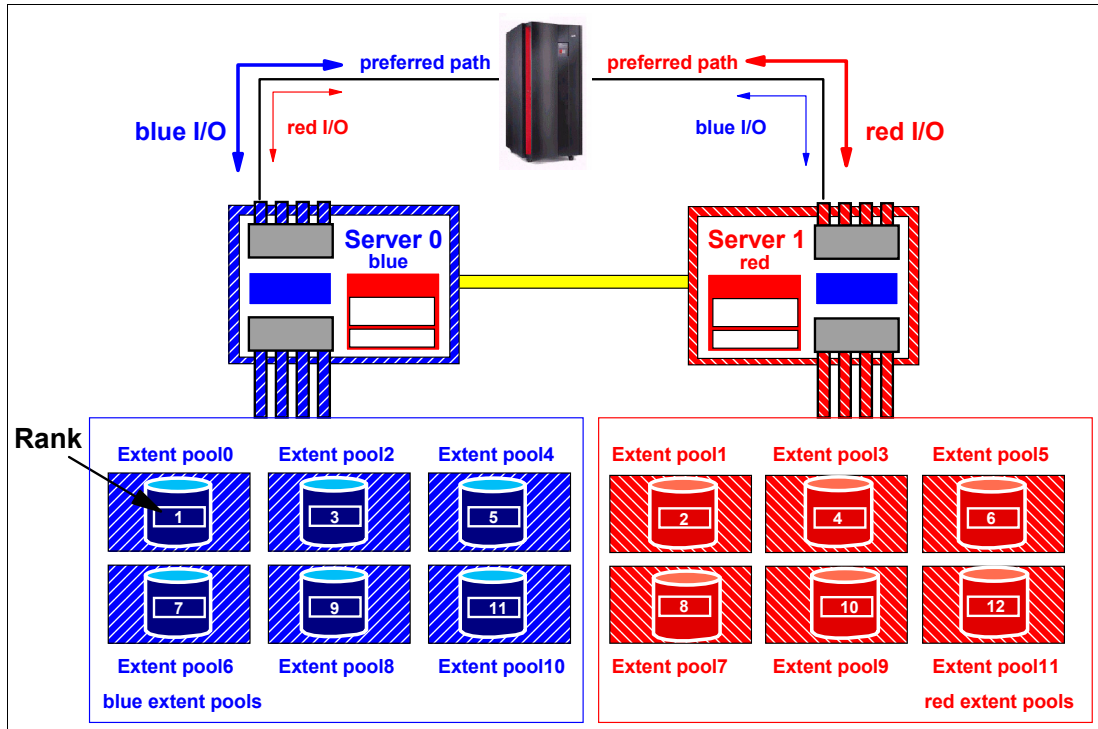

Figure 15-11 Extent pool affinity to processor complex with one extent pool for each rank
Figure 15-11 shows some aspects regarding extent pools as they relate to the disk subsystem within a DS6000:
- ▶ In the example in Figure 15-11, each rank is in its own extent pool. The evenly numbered extent pools have an affinity to the left server, server 0. The odd number extent pools have an affinity to the right server, server 1. When a rank is subdivided into extents it gets assigned to its own extent pool.
Figure 15-11 indicates that there is an affinity between FICON ports and certain extent pools and, therefore, an affinity between FICON ports and certain volumes within these extent pools.